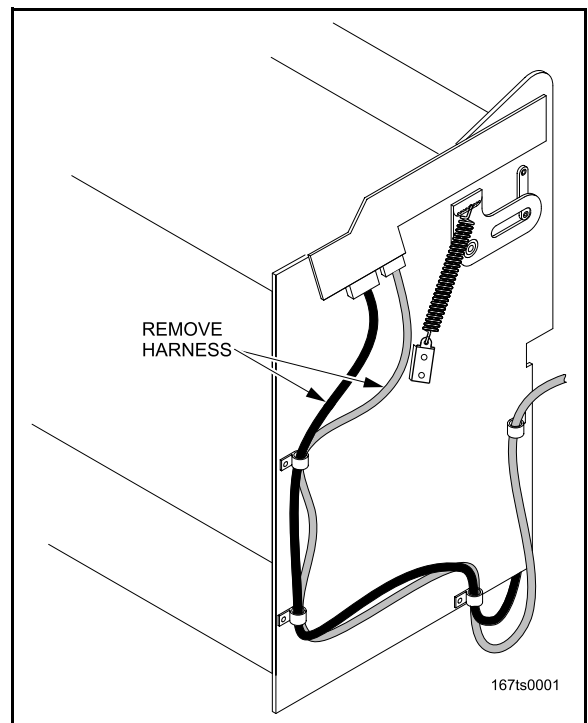

Figure 22
1. Disconnect all SureVend™ wiring harnesses from the circuit boards mounted on the delivery pan (figure 22).